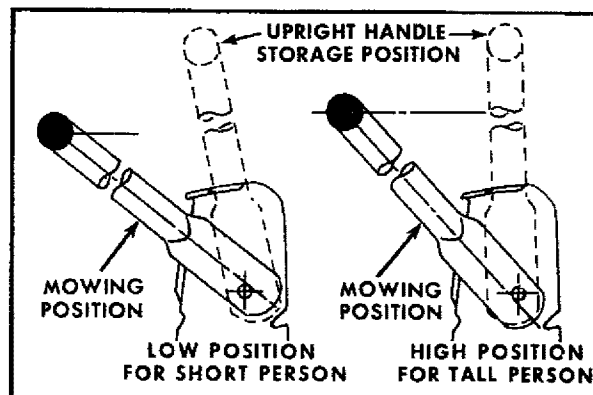

FIG. 2
1. Raise the handles until the lower handle is in mowing position (See Fig. 2).